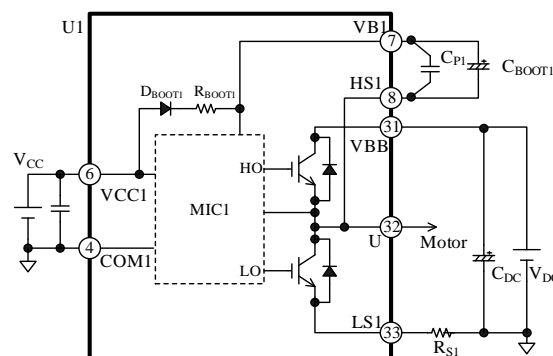

Figure 12-1. Bootstrap Circuit
As Figure 12-1 shows, a bootstrap diode, D_{BOOTx} , and a current-limiting resistor, R_{BOOTx} , are internally placed in series between the VCCx and VBx pins. Time constant for the charging time of C_{BOOTx} , τ , can be computed by Equation (3):